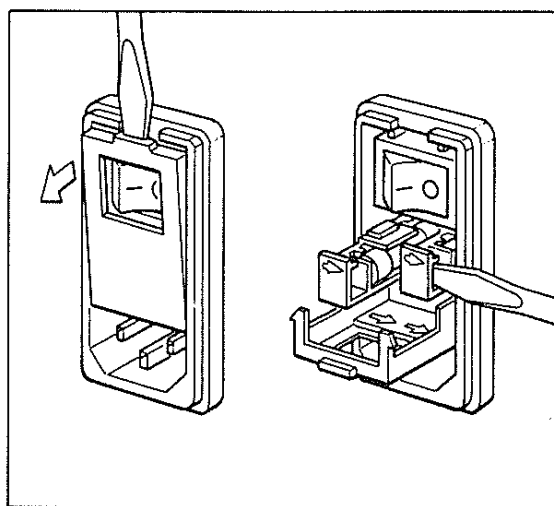

Fig.2.2 Loading the fuses
- iii) insert the tip of a small screw driver behind the top edge of the black plug/switch panel (see Fig.2.2) and lever the panel (which is hinged at the bottom) outwards. This will reveal two black drawers, on the front of each of which is a white arrow pointing to the right. The correct direction of these arrows is also indicated by identical arrows present on the back of the panel which act as a guide when replacing the drawers